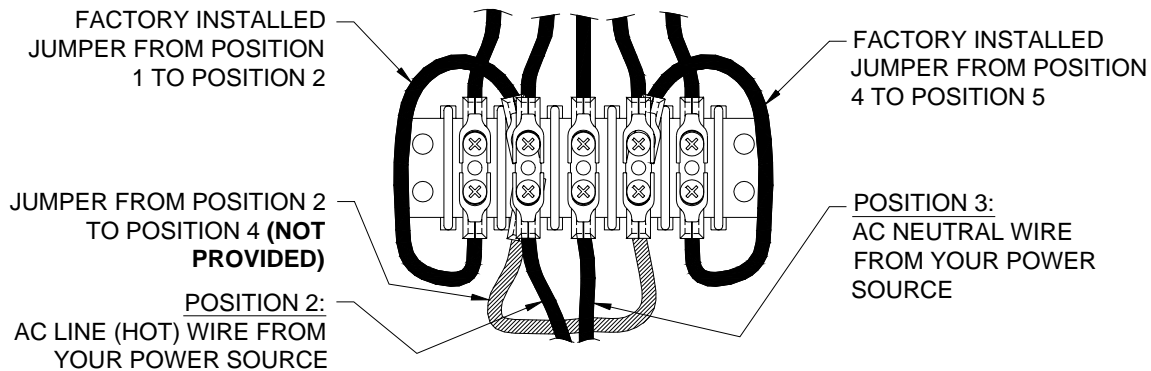

Figure 9 120 VAC Connections
4. If you are going to connect the scoreboard to a 120 VAC supply, connect the AC line wire to position 2 and the AC neutral wire to position 3 of terminal strip T4 on the junction chassis. Add a jumper from position 2 to position 4. **This jumper is not provided.** Refer to figure 9.